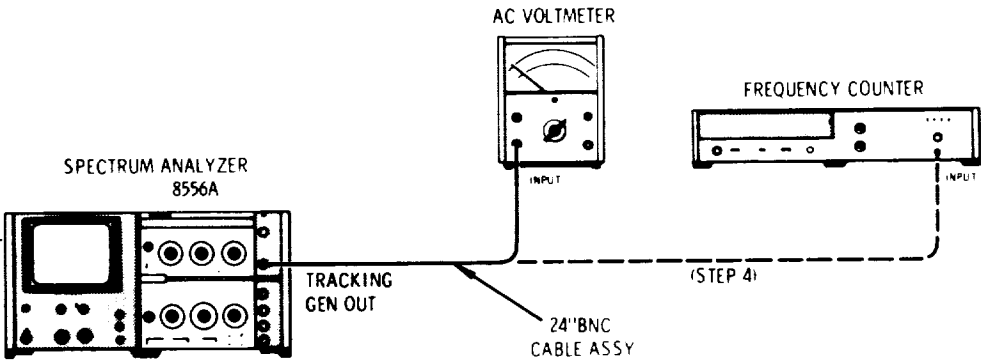

Figure 4-1. Tracking Generator Test Setup
1. Connect equipment as shown in Figure 4-1, connecting AC Voltmeter directly to TRACKING GEN OUT with 24" BNC cable.